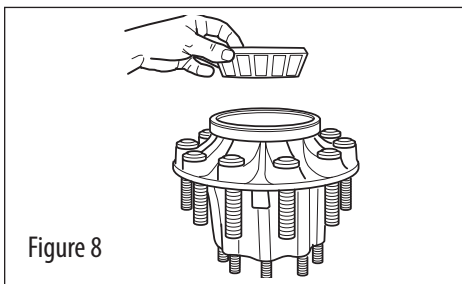

Figure 8
3. For Drive and Trailer Hubs lubricate the inner bearing cone with the same lubricant as will be used in the hub and install it into the inner bearing cup (see Figure 8).